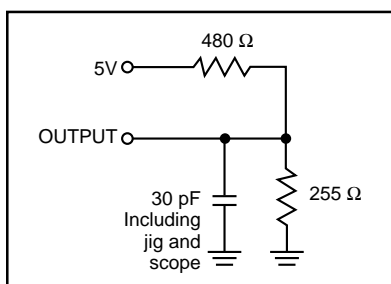

Figure 1
1. Test conditions assume signal transition times of 3 ns or less, timing reference levels of 1.5V, input pulse levels of 0 to 3.0V and output loading specified in Figure 1.
| Output Load | See Figures 1 and 2 |